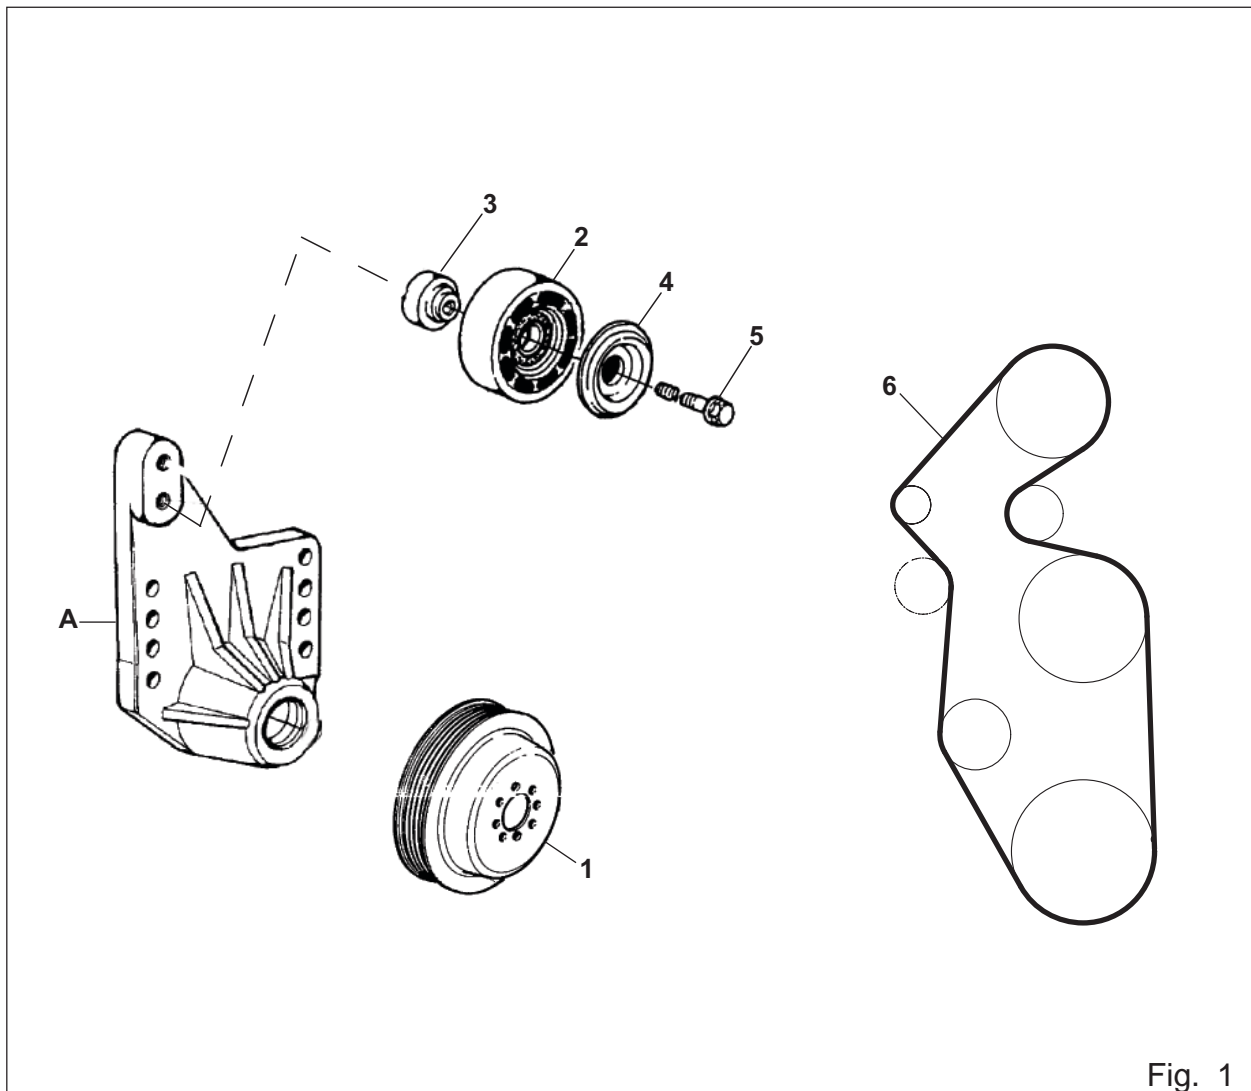

Fig. 1
- Install the new fan drive pulley, dia. 140 mm (1, fig. 1).
For the CELTIS 426, 436 and 446: Fig. 1
- Install the tensioner roller (2, fig. 1) on its mounting (A, fig. 1) and parts (3, 4 and 5, fig. 1).